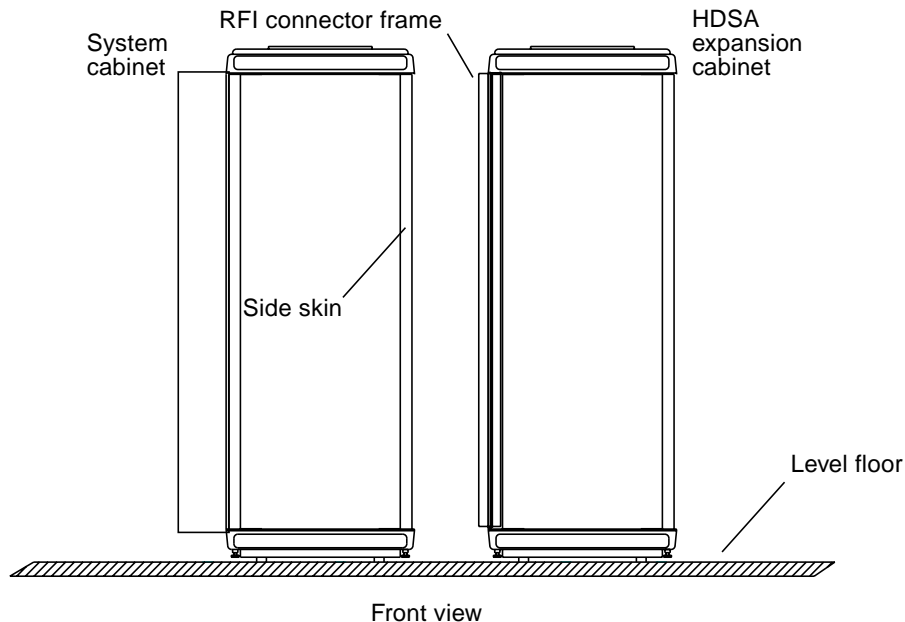

FIGURE B-4 Cabinet Orientation
1. **Place the cabinets on a level floor, front-to-back and side-to-side as shown in FIGURE B-4.**